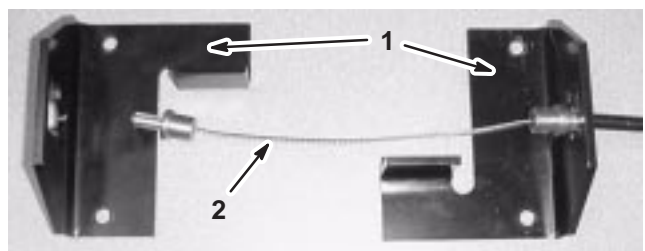

Figure 3
2. Arrange the brake brackets on a table as shown in Figure 3.
3. Insert the cable through the right brake bracket as shown in Figure 3.